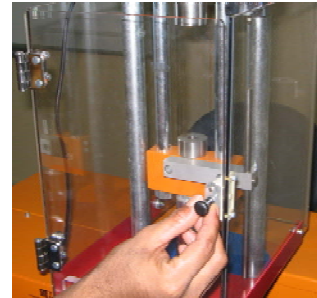

Fig. 5.10: Secure the plastic door.
5. Close the safety plastic door as shown in Fig. 5.10.